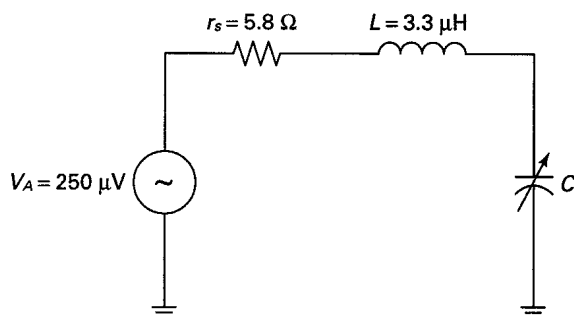

Fig. 1-24
- 1.37** Suppose that the series RLC circuit in Fig. 1-24 is to be designed so that it can tune over a frequency range of 14.0 MHz to 14.35 MHz. Calculate the following: (a) the required tuning range TR, (b)  $C_{\min}$ , (c)  $C_{\max}$ .
- 1.38** Refer to Fig. 1-24. If  $C$  is adjusted to 38.07 pF, calculate: (a)  $f_0$ , (b)  $Z_T$  at  $f_0$ , (c)  $I$  at  $f_0$ , (d)  $Q$ , (e)  $V_L$  and  $V_C$  at  $f_0$ , (f) BW.